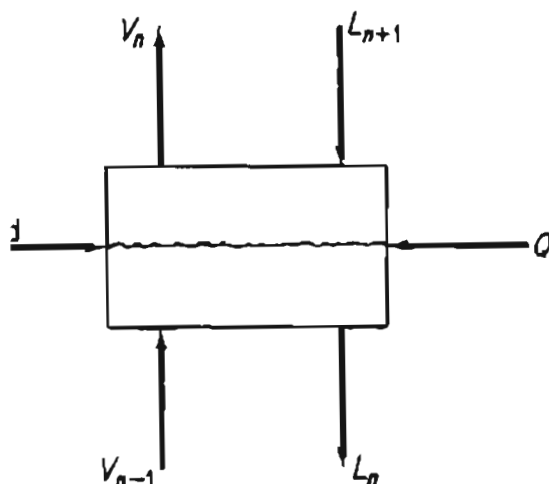

Figure P30.3
- 30.3 If to the equilibrium stage shown in Example 6.1 you add a feed stream, determine the number of degrees of freedom. See Figure P30.3.